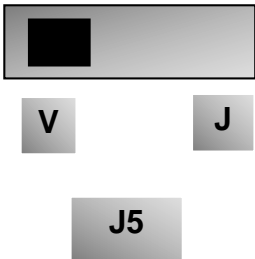

Figure 8-7
- xiii. Analog output terminal AO1 can output voltage and current signal, the selecting switch is J5, please refer to Figure 8-7 the output relation is shown in 8-4.